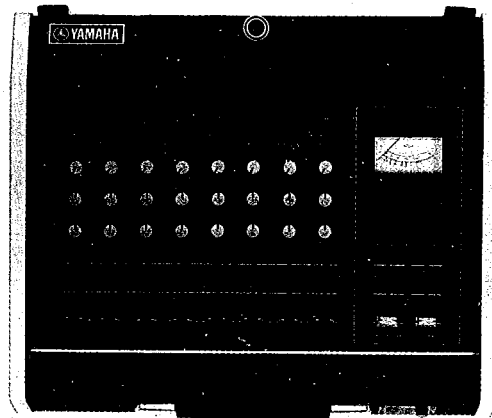

Figure 2
- (2) Reset the unit in its normal position and remove the screw as shown in Figure 2.